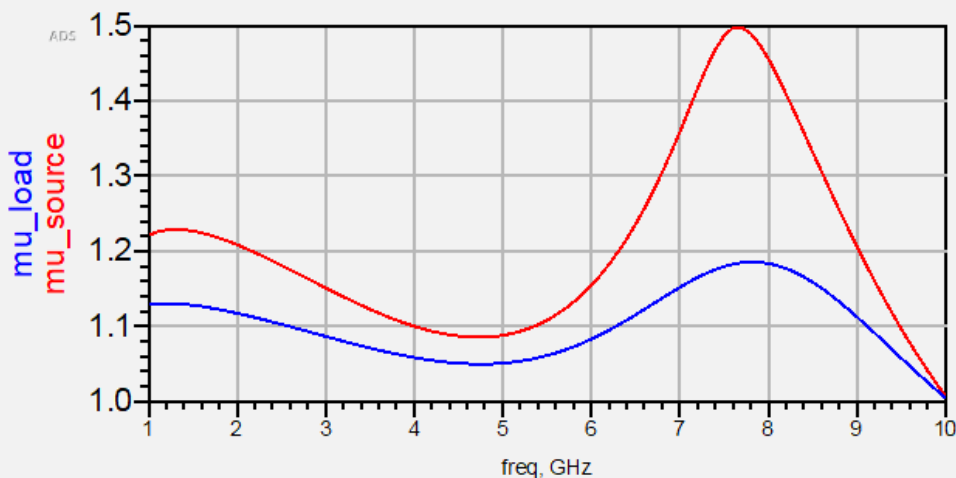

Figure 33. Graph of amplifier stability
4. In the Circles_Stability tab, notice that both μ_{source} and μ_{load} are greater than 1 from 1 GHz to 10 GHz. This is shown in Figure 33. This is a sufficient condition for an unconditionally stable amplifier.